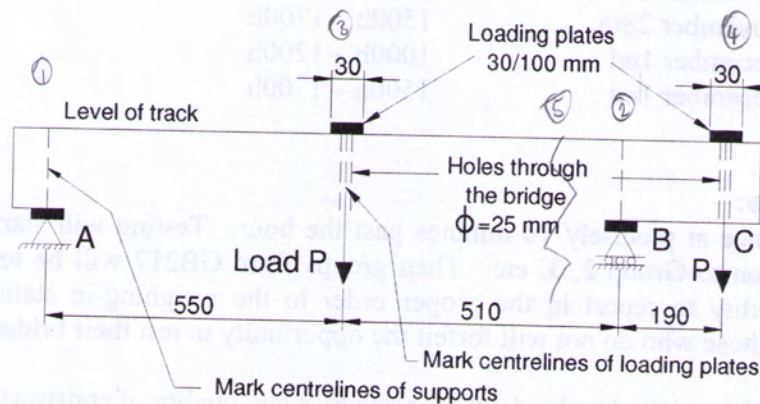

Figure 4: Concentrated Load Schematic
- 8: There must be two holes, with a diameter of 25 mm, passing through the depth of the bridge to assist in applying the concentrated loads. The locations of the holes are shown in Figure 4.
- 2: Draw the centrelines of the supports and the loading plates on each side of the bridge as shown in Figure 4.
- 4: Your bridge will then be placed in another testing apparatus. Two equal point loads will be applied as shown in Figure 4. The deflection at midspan of AB when each load equals 200 N will be determined. The loads will then be increased until the bridge fails. Note that "failure of the bridge" will be declared if the deflections become extreme, which will be defined as  $\text{span}/30$ . That is a mid-span deflection of 35mm would signify bridge failure. Note: the test operator has the ability to stop the loading if they deem it no longer able to carry the loads in a meaningful way.